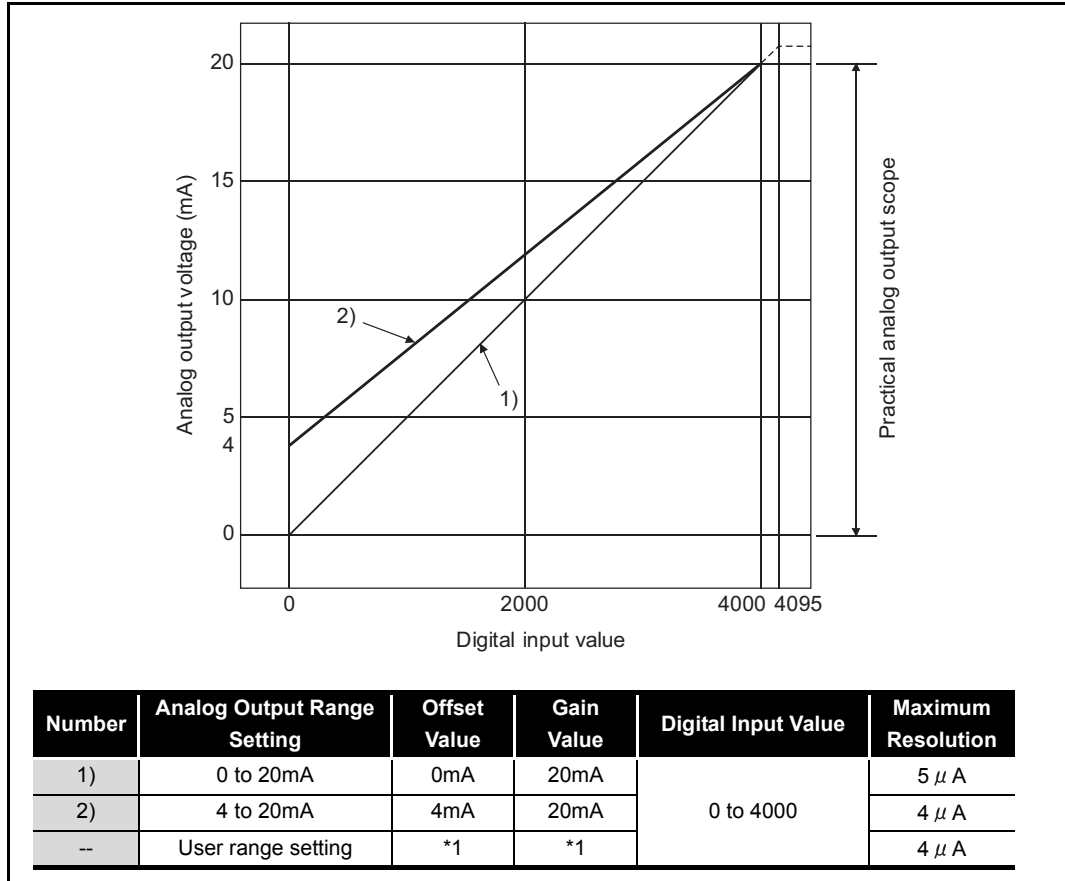

Figure 3.2 Output characteristics of ST1DA1-I
- (1) Within the digital input and analog output scopes of each output range, the maximum resolution and accuracy are within the performance specification range. Outside those scopes, however, they may not fall within the performance specification range. (Avoid using the dotted line part in Figure 3.2.)
- (2) Set the offset/gain values for the user setting range \*1 within a range in which the following conditions are satisfied.